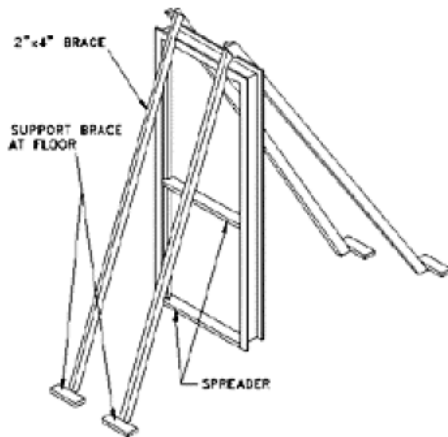

Figure 11
1. Bracing the Frame: Brace the frame as shown in Figure 11. Do not brace in the direction of intended wall. (Figure 11)